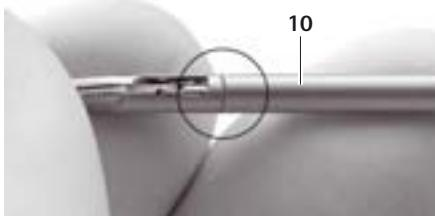

Fig. 7
- Ensure that outer tube 10 is pushed over inner tube 9 with working insert 7 to the positive stop, see Fig. 7.